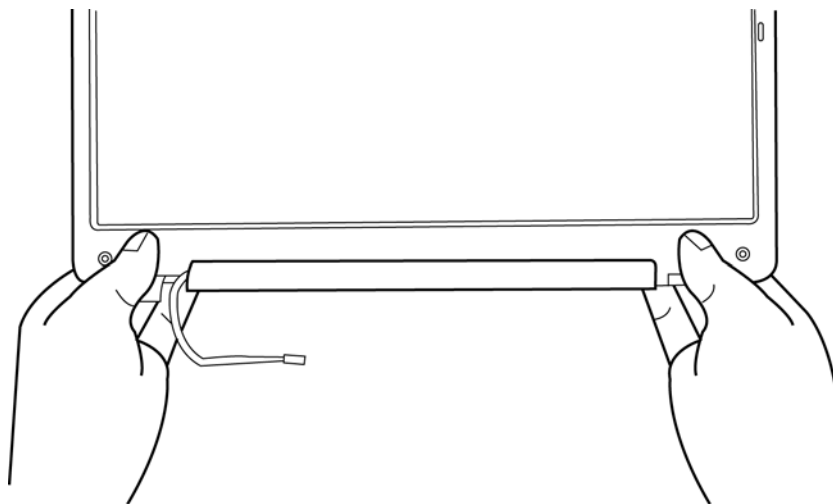

Figure 4.40 Pressing the bezel downside hook
4. Press the bezel downside hook near the hinge wall as shown in Figure 4.40.